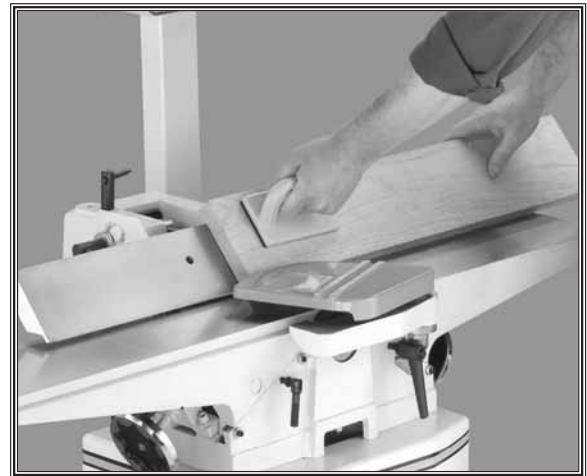

Figure 34. Typical bevel cutting operation.
The purpose of bevel cutting is to cut a specific angle into the edge of a workpiece (see **Figures 34 & 35**).
7. With a push block in your leading hand, press the workpiece against the table and fence (**Figure 34**) with firm pressure, and feed the workpiece over the cutterhead.